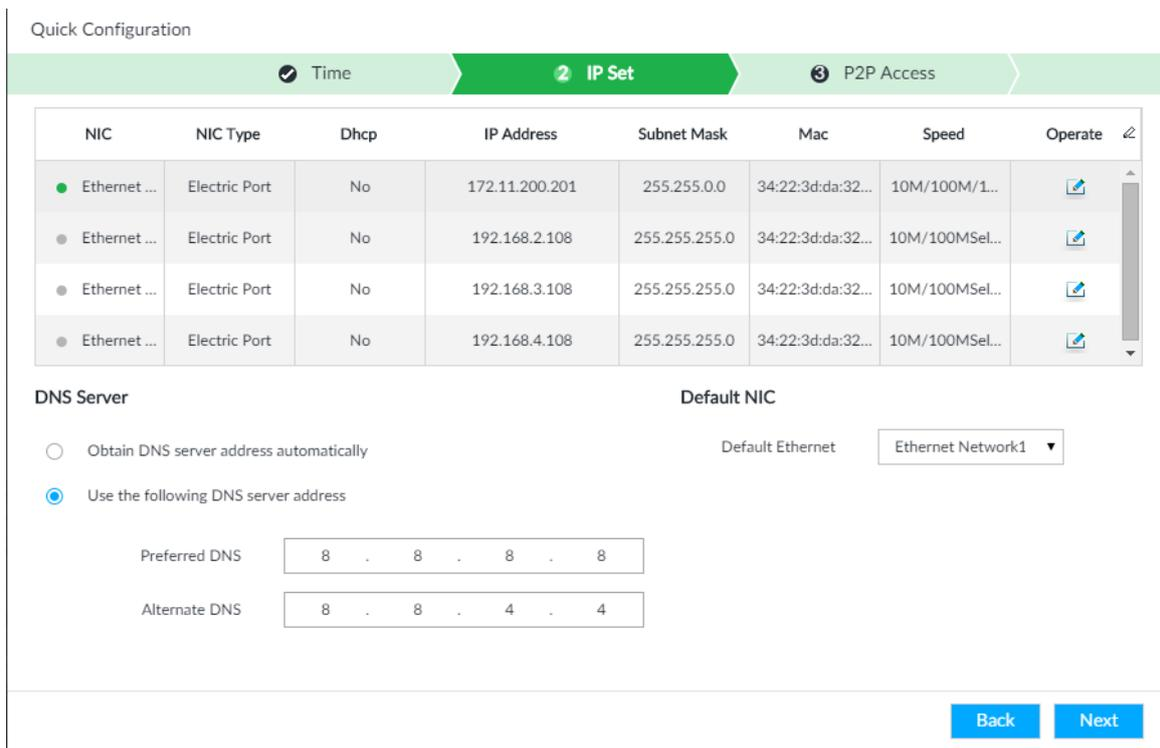

Figure 3-5
Step 1 On Time setting interface, click Next button. Enter IP setting interface. See Figure 3-5.